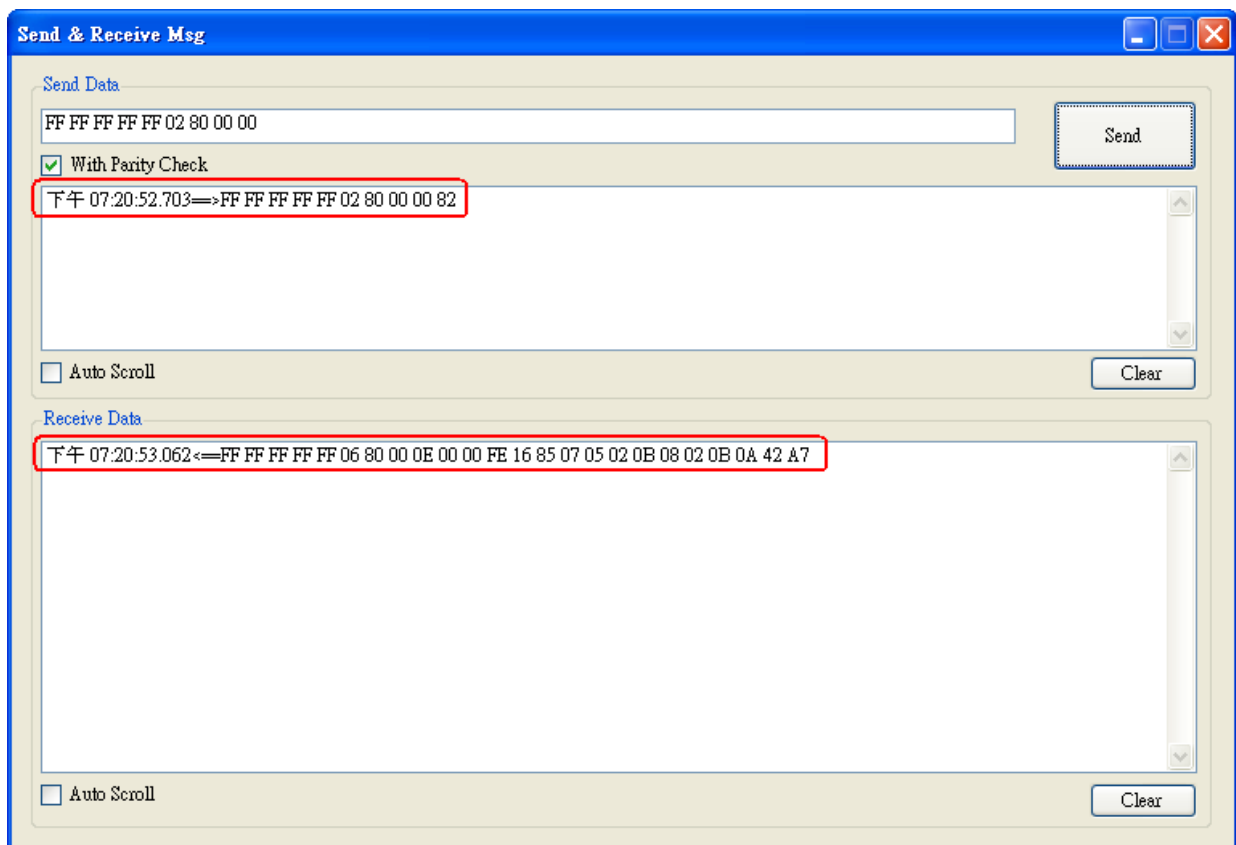

Figure 4-12: Receive HART Command
(3) When HART device responses the HART information, it will show in the “Receive Data” field like Figure 4-12. If error happened in HART communication, it will not show any message in the “Receive Data” field. Please check the HART command in the “Send Data” field if it is correct.